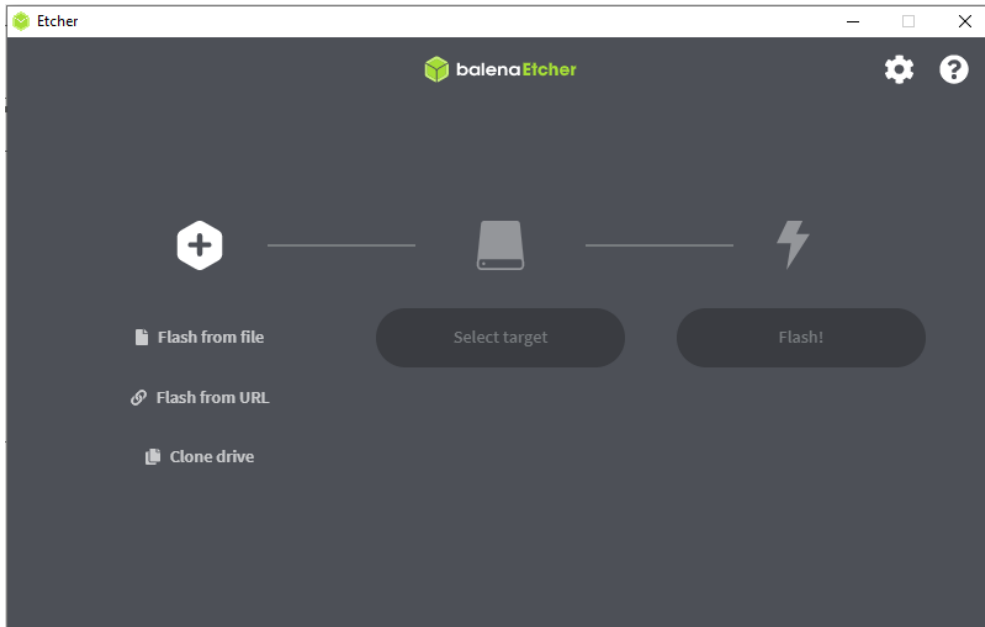

Figure 8. BalenaEtcher Tool
3. Click the *Flash from file* icon and select the Demo image file (QCIOT4_SDCARD_16GB.img). Then, click *Flash* (see Figure 8).